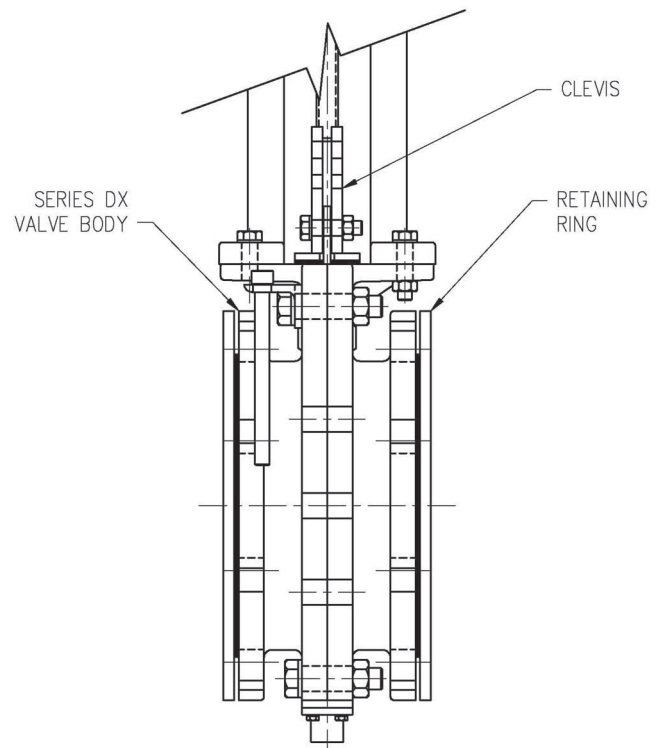

FIGURE 1
5. Standard retainer flange material is UHMW. Valves 10" and larger are shipped with retainer flanges mounted to the valve. Retaining flanges on valves 3" - 8" are optional. Refer to Figure 1 on opposite page.